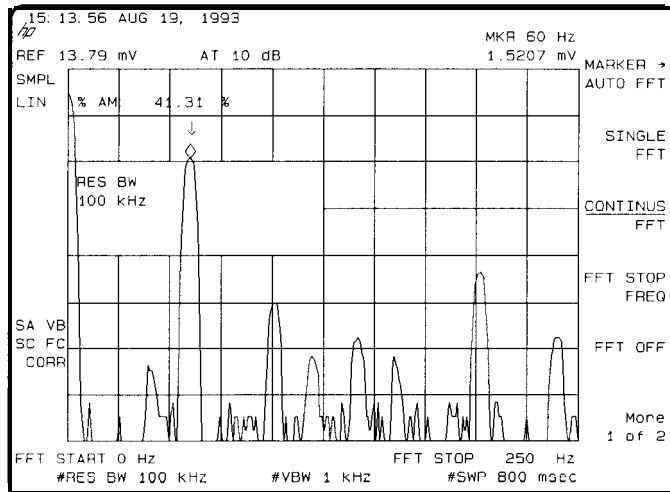

Figure 5-1. FFT Annotation
11. Press **MEAS/USER** and **% AM ON OFF** so that ON is underlined. The spectrum analyzer reads out the percent AM of the largest modulation frequency. An arrow indicates the signal being measured. See Figure 5-1. This measurement does not include all of the harmonics of the modulating signal.
7. Press **MEAS/USER** and **% AM ON OFF** so that ON is underlined. The spectrum analyzer reads out the percent AM of the largest modulation frequency. An arrow indicates the signal being measured. See Figure 5-1. This measurement does not include all of the harmonics of the modulating signal.